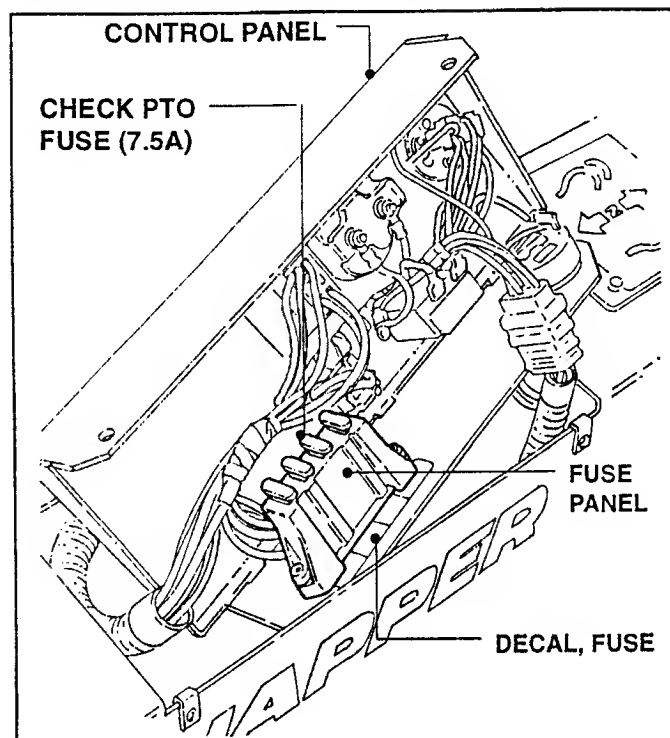

FIGURE 8.1
4. Check the 7.5 Amp PTO Fuse. Replace as required. See Figure 8.1.